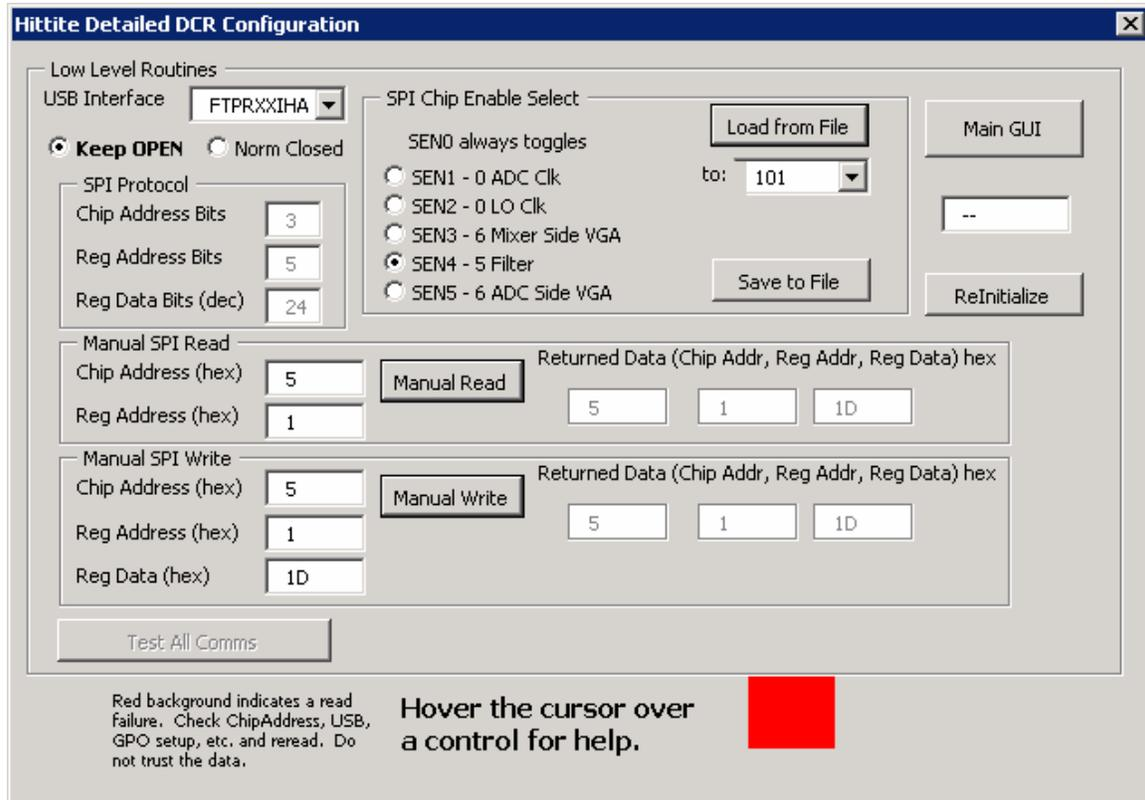

Figure 60. Program Reg01h[4] = 1h to make sure that the HMC900LP5E uses calibrated bandwidth settings
- Finally, to instruct the HMC900LP5E to use the desired setting program `Reg01h[4] = 1`. Initially as per Figure 60, `Reg01h` is read so that values other than `Reg01h[4]` can be left unchanged.